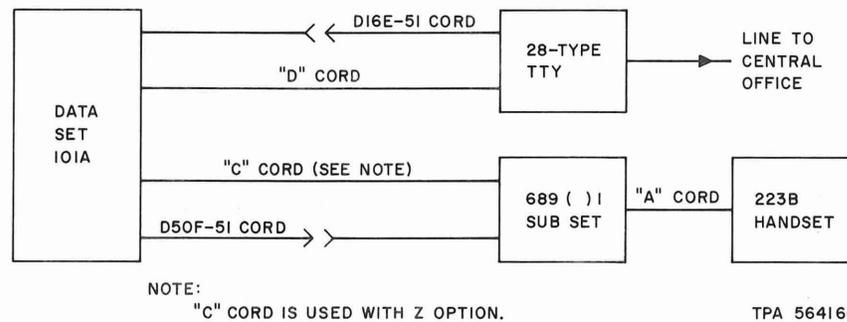

Fig. 4—Block Diagram of a Typical 3-Row DATA-PHONE Station
- 1.05 Fig. 4 is a block diagram of a typical 3-row DATA-PHONE station.